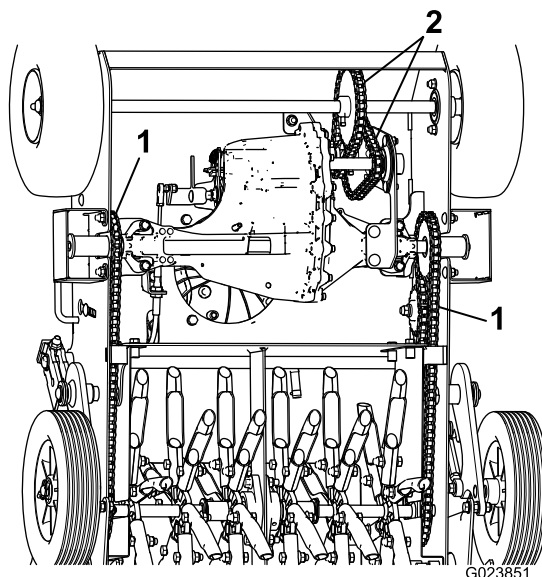

Figure 23
3. Rotate the front wheels and apply oil or chain lubricant onto the links of the lower spans of the front drive chains (Figure 23).
4. Check the front drive chains (Figure 23) for wear, damage, and proper tension. If chains pop or snap, replace the sprockets and chains.
5. Rotate tine shafts and apply oil or chain lubricant onto all the links of the lower spans of the tine drive chains (Figure 23).